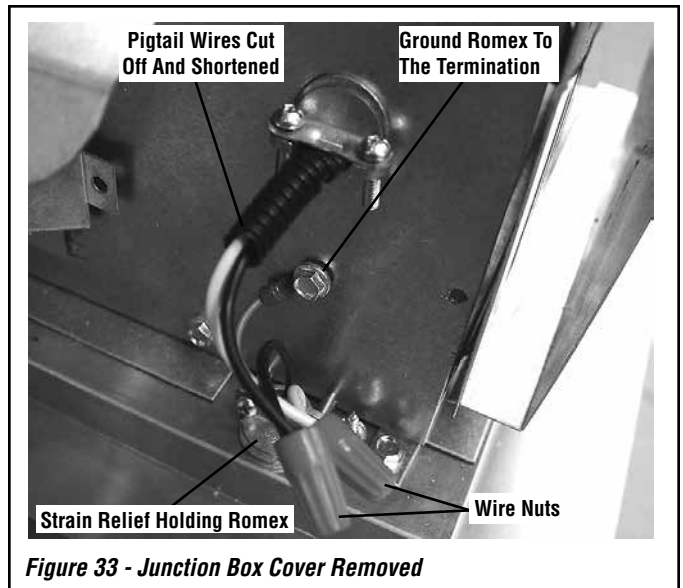

Figure 33 - Junction Box Cover Removed
4. Connect the black power supply wire to the **power outlet's** red pigtail lead and the white power supply wire to the **common** terminal of the outlet as shown in Figures 33 and 34.
- Refer to Figure 33 to connect the three wires of the Romex cable to the termination. Ensure the ground ring terminal is grounded beneath a structural screw as shown. Attach the junction box cover to the termination with the screw previously removed.